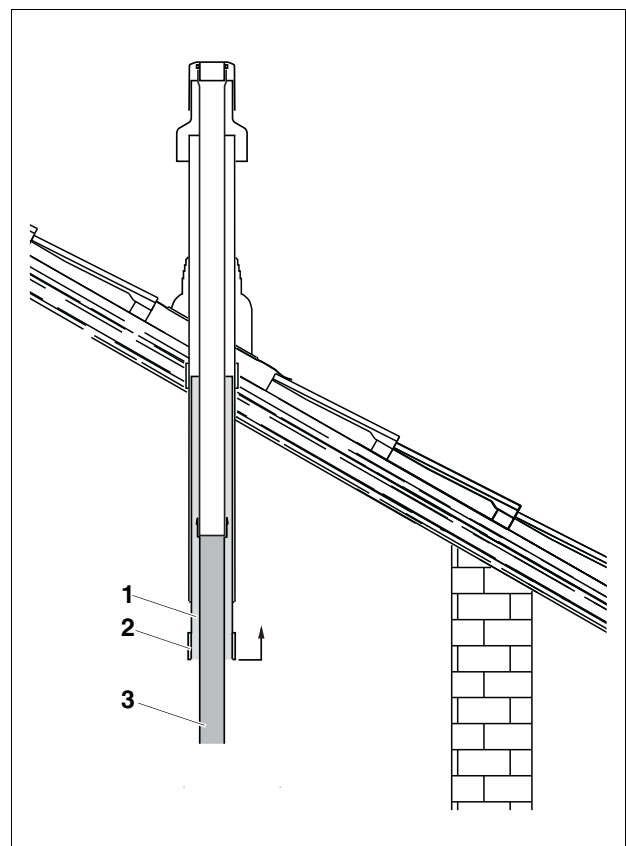

Fig. 8 Installing the concentric pipe (dimensions in mm)
- **Important:** in order to accommodate thermal expansions, the freedom of movement of the hood must be ensured (Fig. 8).
- Insert the concentric pipe (Fig. 8, **Item 1**) all the way up into the roof termination.
If necessary, trim the flue gas pipe (Fig. 8, **Item 3**): leave the flue gas pipe at least 1" (25 mm) longer than required.
If necessary, trim the concentric pipe: to trim, the insertion end (Fig. 8, **Item 2**) can be removed, then reinstall.
- Coat the gaskets in the boiler connector (Fig. 8, **Item 4**) with CEN-TROCERIN® anti-seizing compound and slide on the pipe while turning slightly.